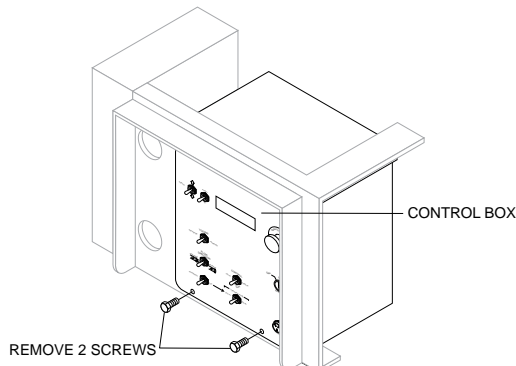

Figure 30. Removing The Control Box
1. Remove the two screws (Figure 30) on the **digital control panel** that secure the front panel to the control box.